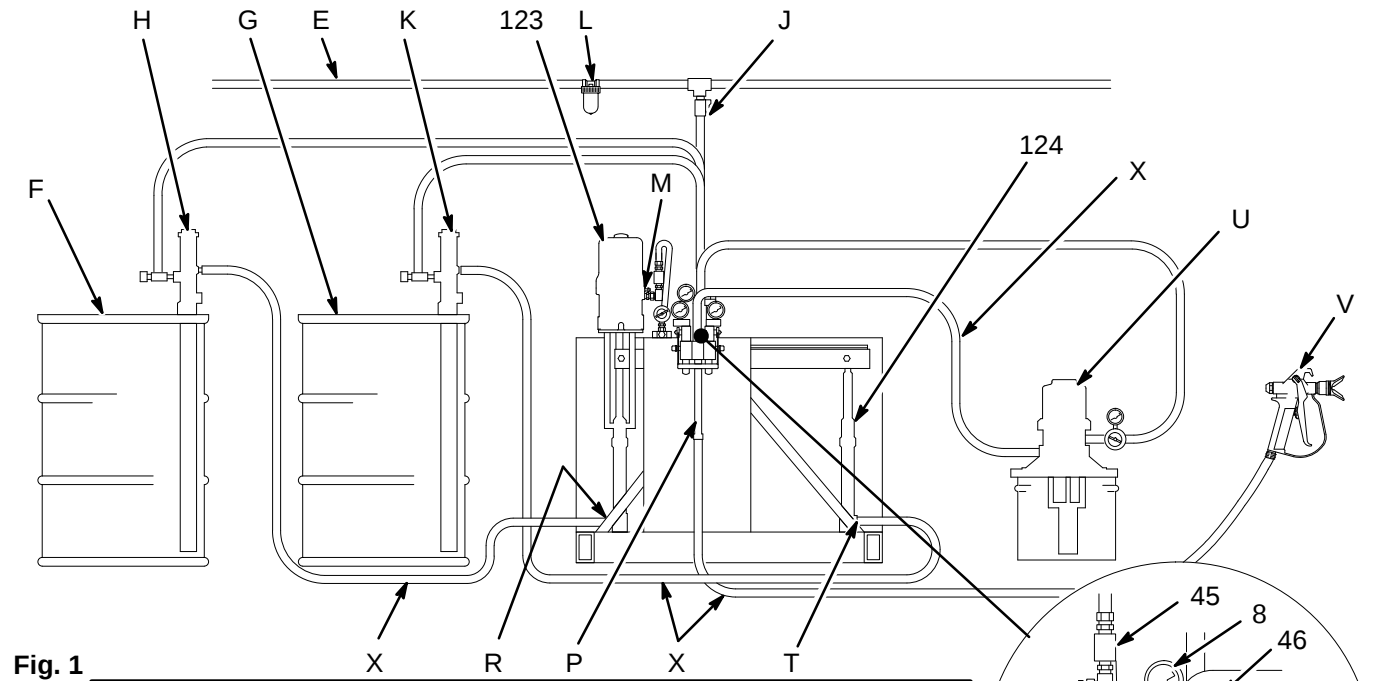

Fig. 1
The Typical Installations in Figs. 1 and 2 are only guidelines to setting up the complete VRHC system. Two types of applications are shown: an airless spray dispensing system for spraying light viscosity fluids,
NOTE: Reference numbers and letters in the text refer to Figures 1 to 18 and the Parts drawings.
Refer to Figures 1 and 2 and the **Accessories** on page 29.
Connect a grounded air supply hose to the 1/2 npt(f) port of the air manifold (37). Open the bleed-type master air valve (45), and using the pressure gauge (8), set the air regulator (13) to the desired pressure. See Figures 1 and 2 and the parts drawing on page 31.